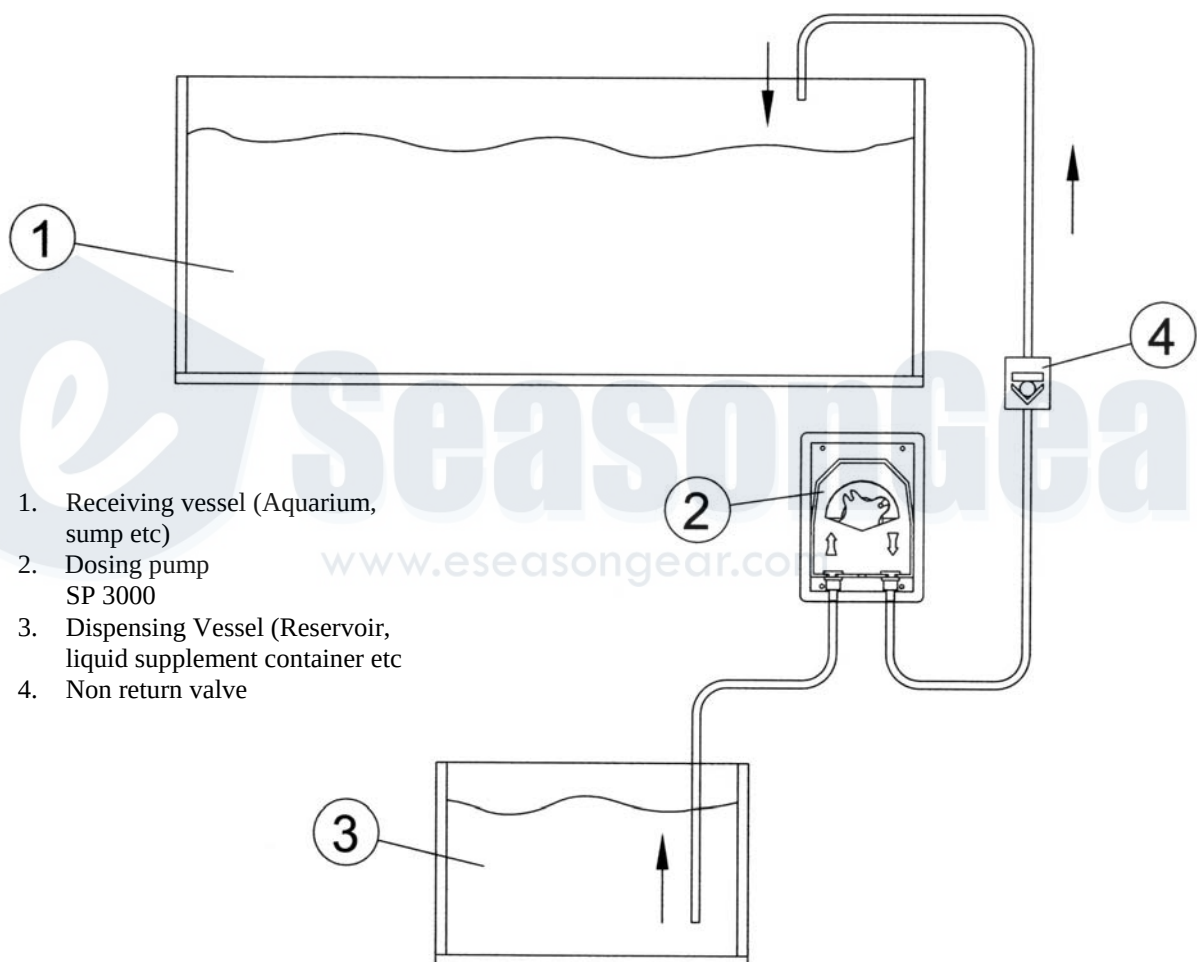

fig 1: Installation method for dosing from a dispensing vessel, including a non return valve.
- The pump is self priming and should be mounted above the water level of the liquid storage tank (see fig 1).
- If small amounts of water need to be precisely dosed then a non return valve should be placed in the inlet hose of the pump. This prevents the pressure tube emptying and ensures that the same volume is dosed during each operating cycle (see fig 1).